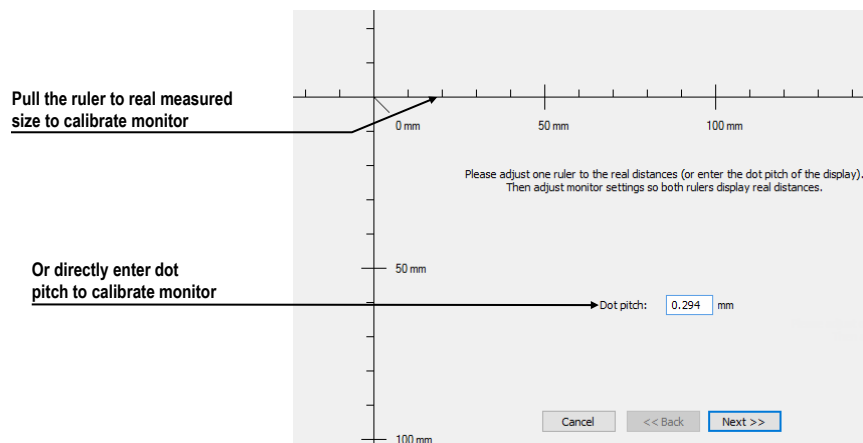

Figure 79 – Monitor calibration
2. The **Full screen calibration** dialog is displayed on the selected monitor (see Figure 79).